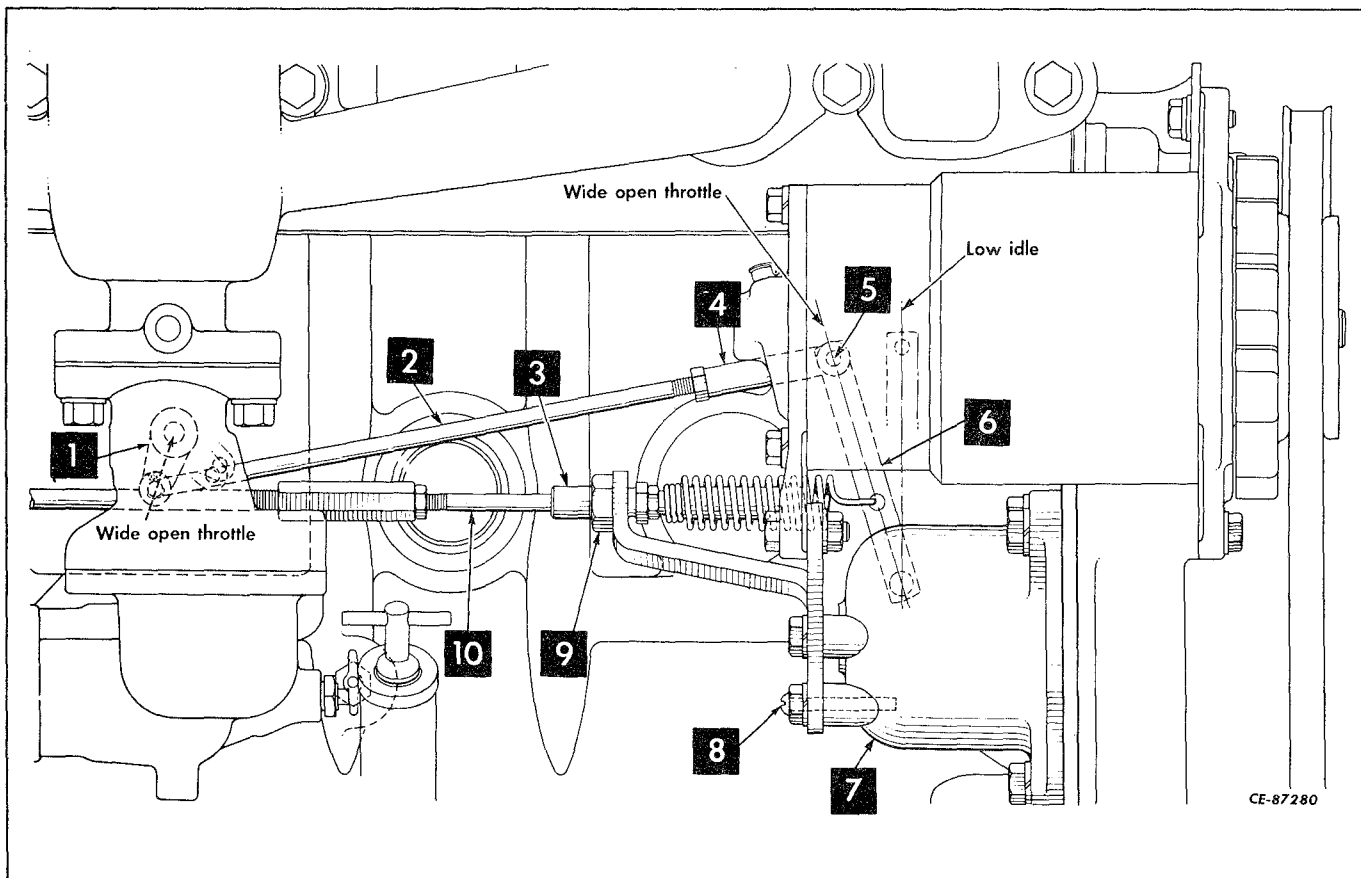

Figure 9-4
Disconnect clevis (4, Fig. 9-4) from the lever (6). Place the levers (1 and 6) in the "wide open" throttle position.